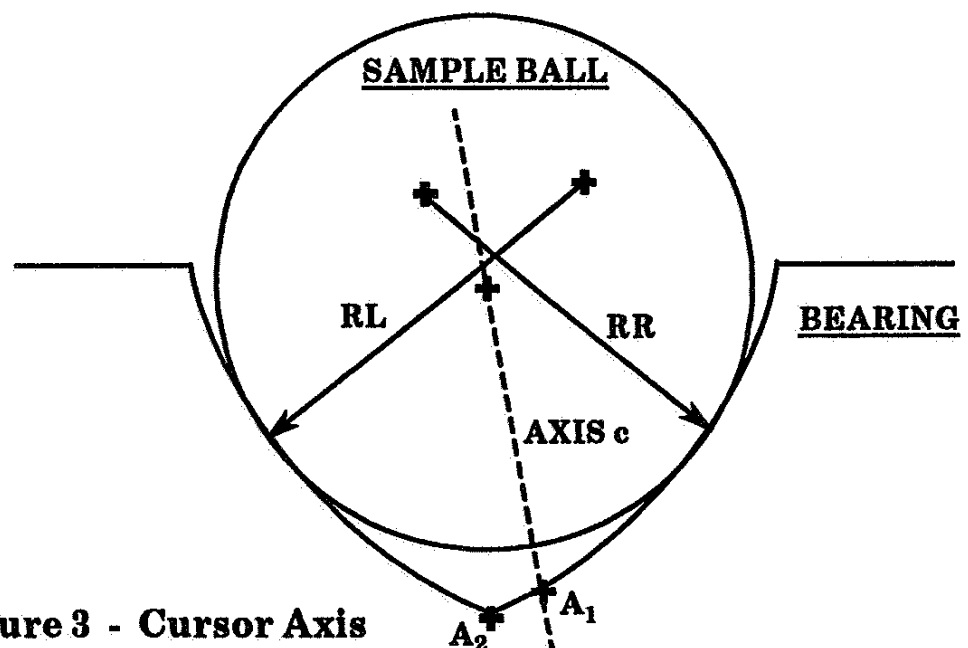

Figure 3 - Cursor Axis
Cursor Construct an axis through a cursor selected reference point (A_1) and the calculated centre of the test ball - **AXIS c**, Figure 3. Using this cursor to define the axis, allows it to be positioned where required. Thus the axis can always be through the bottom of the bearing if preferred, i.e. A_2 .
When Axis X is selected, the cursor shown as A₁ in Figure 3, is used to select a reference point for an axis which runs through the calculated centre of the test ball. This is shown as Axis c in Figure 3. The cursor X can always be positioned where required. Therefore, if preferred, the axis can always be through the bottom of the bearing. This cursor may be used in both the Arcs and Surface method of results calculation.
1. Select an axis cursor from Radius, Contact, Cursor or Vertical. When Cursor is used, the axis cursor **X** must be positioned on the measured profile, see Figure 3.